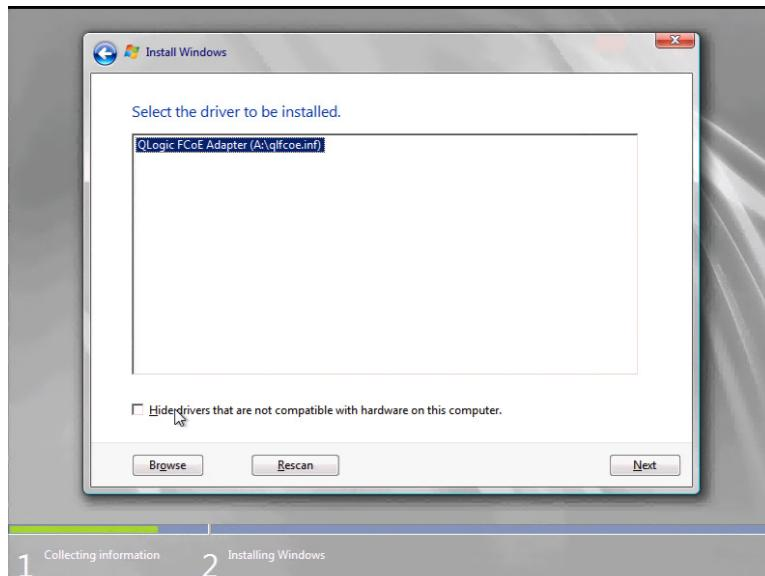

Figure 3-40. Select the Driver to Be Installed
6. Windows Setup presents a list of all drivers on the driver disk (Figure 3-40). Select **QLogic FCoE Adapter** from the list.
7. Windows loads the QLogic FCoE driver, and displays all LUNs that were presented to the QLogic adapter for a boot-from-SAN installation. If LUNs are found, Windows prompts you to select the disk/LUN on the SAN on which to install Windows Server 2008 (Figure 3-40).